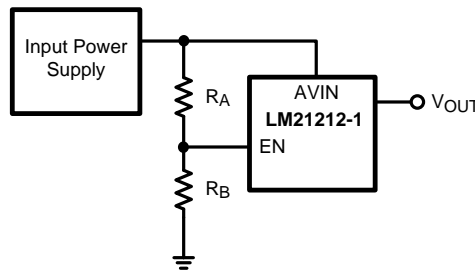

Figure 30. Enable Startup Through Vin
The LM21212-1 has a built-in under-voltage lockout protection circuit that keeps the device from switching until the input voltage reaches 2.7V (typical). The UVLO threshold has 200 mV of hysteresis that keeps the device from responding to power-on glitches during start up. If desired the turn-on point of the supply can be changed by using the precision enable pin and a resistor divider network connected to VIN as shown in Figure 30 in the design guide.
The enable (EN) pin of the LM21212-1 allows the output to be toggled on and off. This pin is a precision analog input. When the voltage exceeds 1.35V, the controller will try to regulate the output voltage as long as the input voltage has exceeded the UVLO voltage of 2.70V. There is an internal current source connected to EN so if enable is not used, the device will turn on automatically. If EN is not toggled directly the device can be preprogrammed to turn on at a certain input voltage higher than the UVLO voltage. This can be done with an external resistor divider from AVIN to EN and EN to AGND as shown below in Figure 30.